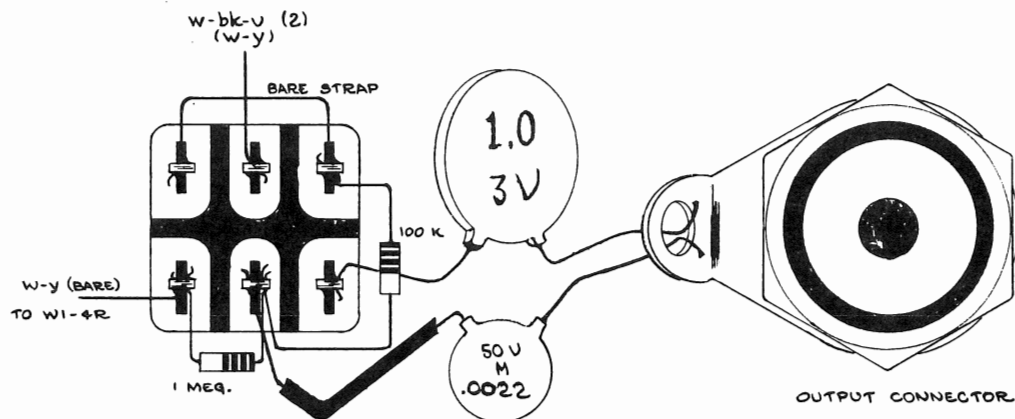

Fig. 3
- ( ) Resolder it to the terminal indicated in Fig 3.
- ( ) Cut off the excess wire and solder, along with the white-black-violet wire from the new SELECTOR switch, W2-8R, to the switch terminal indicated in Fig 3.
- ( ) 21. Resolder the components and wires indicated in Fig 3.
- ( ) 26. Solder the 2-1/2 in. length of white-yellow wire (from kit) between the "B" SELECTOR switch, W2-8R, and the switch terminal indicated in Fig 3 (in parenthesis).
- ( ) Place the length of insulated tubing (from kit) over the wire and dress the wire to the switch terminal indicated in Fig 3. DO NOT SOLDER YET.
- ( ) 28. Resolder the components and wires to the switch as indicated in Fig 3.
NOTE: Fig. 3 shows the wiring for amplifier "A". Amplifier "B" wiring differs only where shown in parenthesis.